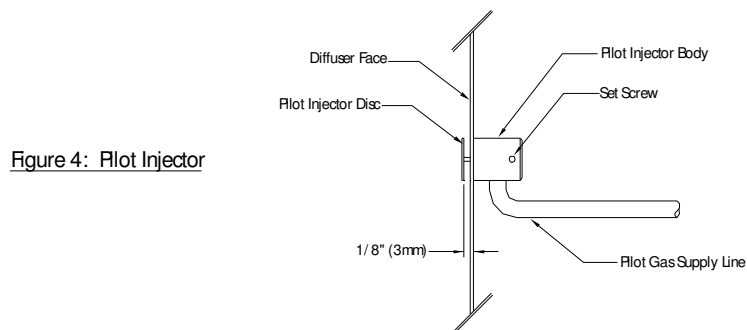
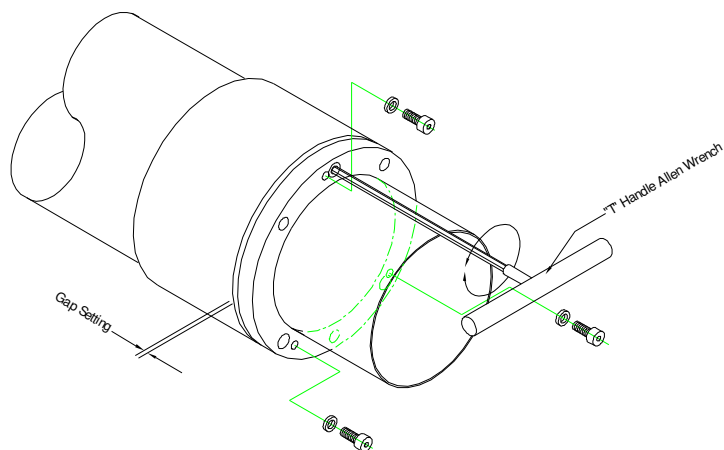

Figure 4: Pilot Injector
Figure 5: Gas Adjustment
Step 1: If the burner is equipped with a proven gas pilot (Lc21-310), the pilot injector disc must be removed. Loosen set screw to allow for removal of the pilot injector disc assembly (figure 4).
Step 2: Remove 3 ea. Diffuser fastening screws (item 7) and diffuser stand off pillars (item 5).
Step 3: Loosen 3 ea. Jam screw/washer (item 4) on the orifice plate.
Step 4: To DECREASE the gap setting, rotate the gap adjusting screw (item 3) clockwise as illustrated in Figure 5 on the next page. To INCREASE the gap, rotate counter-clockwise. Using a measuring scale or gap gauge, adjust all three screws so that the gap setting is equally maintained around the circumference of the assembly. The orifice plate is free to slide along the primary air tube (item 1).